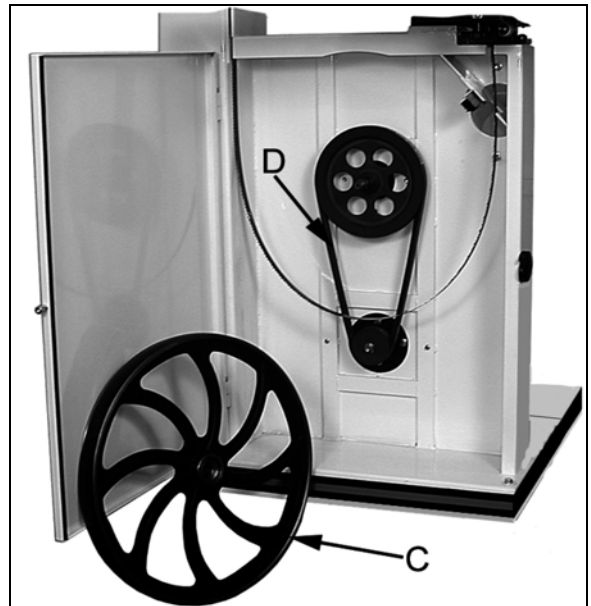

Figure 21
5. Remove the wheel (C, Fig. 21). If the lower wheel does not come off easily you may need to use a pulley puller to remove the lower wheel.
6. Remove the old belt (D, Fig. 21) and replace the belt.